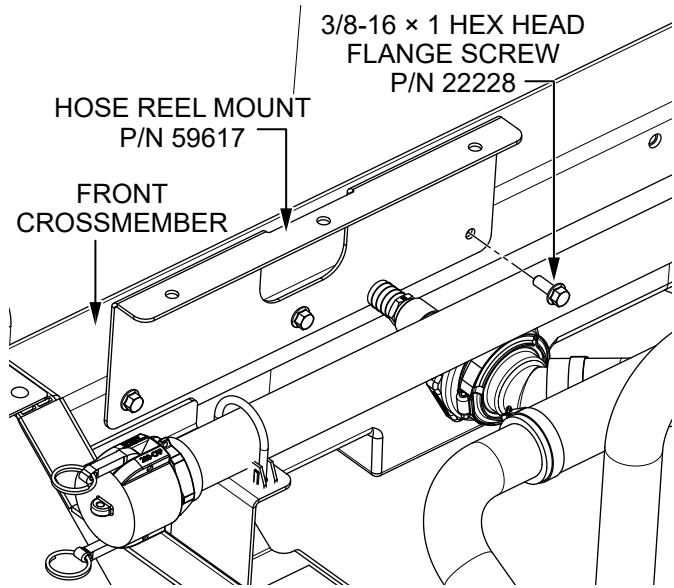

Figure 4. Install Hose Reel Mount
3. Using the **three 3/8-16 x 1 hex head flange screws** (P/N 22228), secure the **hose reel mount** (P/N 59617) to the **front crossmember** as shown in Figure 4.